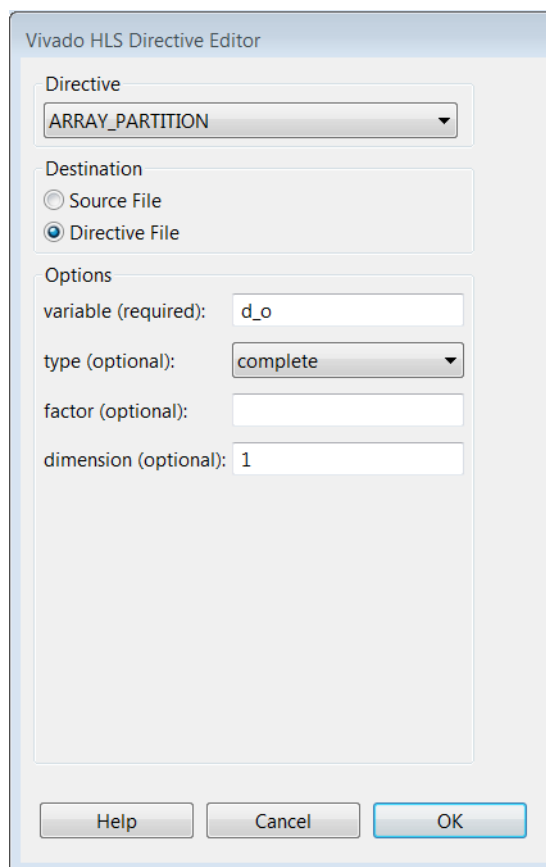

Figure 4-25: Directives Editor for Partitioning Array d_o
- c. With the Directives Editor as shown in Figure 4-25, click **OK**.